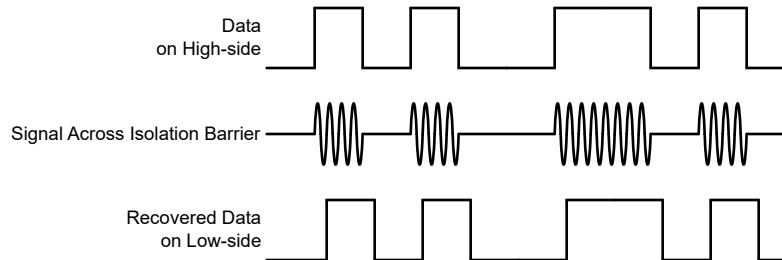

Figure 7-4. OOK-Based Modulation Scheme
The AMC22C11 uses an on-off keying (OOK) modulation scheme, as shown in Figure 7-4, to transmit the comparator output states across the SiO₂-based isolation barrier. The transmit driver (TX) shown in the Functional Block Diagram transmits an internally-generated, high-frequency carrier across the isolation barrier to represent a digital *one* and does not send a signal to represent a digital *zero*.